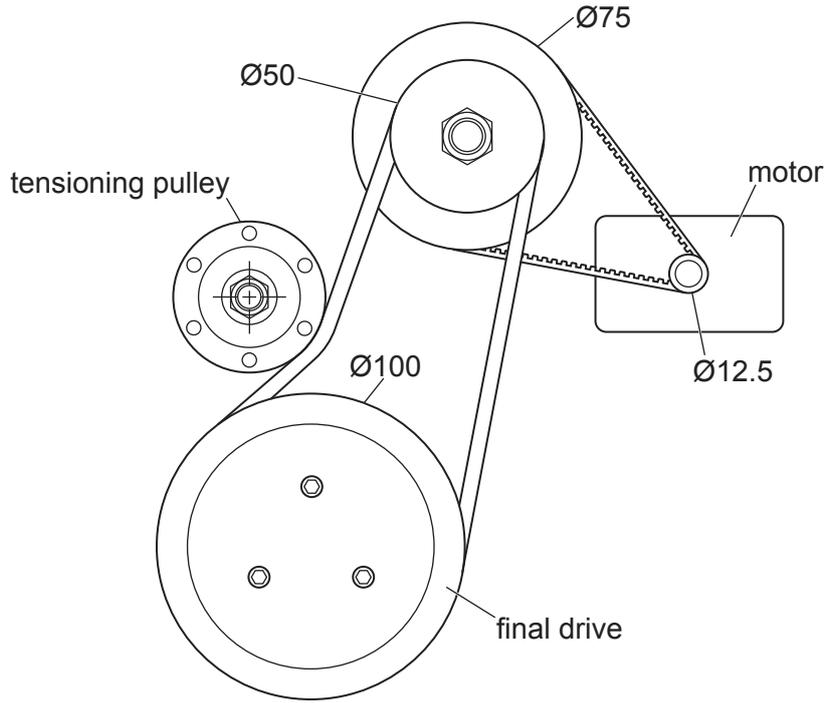

Fig. 11.4
- (iv) Fig. 11.4 shows the belt and pulley system between the motor and the final drive. Calculate the speed of rotation of the final drive when the motor turns at 1000 rpm.